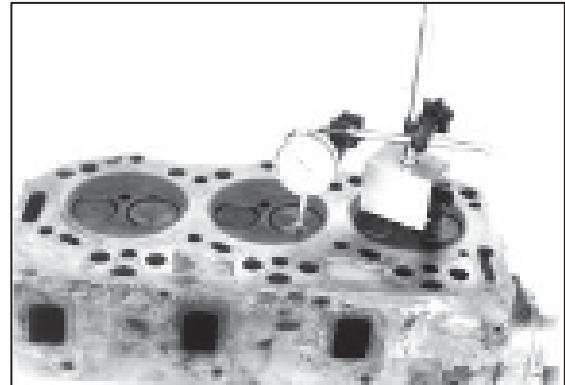

Fig. C2.39
2. Check depth / protrusion from valve face to cylinder head surface by using dial gauge as shown in the fig. C2.39